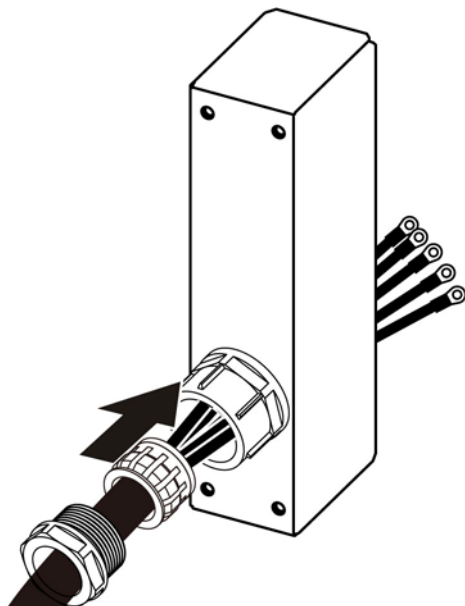

Figure 10 Assembling 62050P Input Terminal Safety Cover - 1
- a. Remove the anti-pulling device and then insert the wires to pass through the anti-pulling device and safety cover as Figure 10 shows.